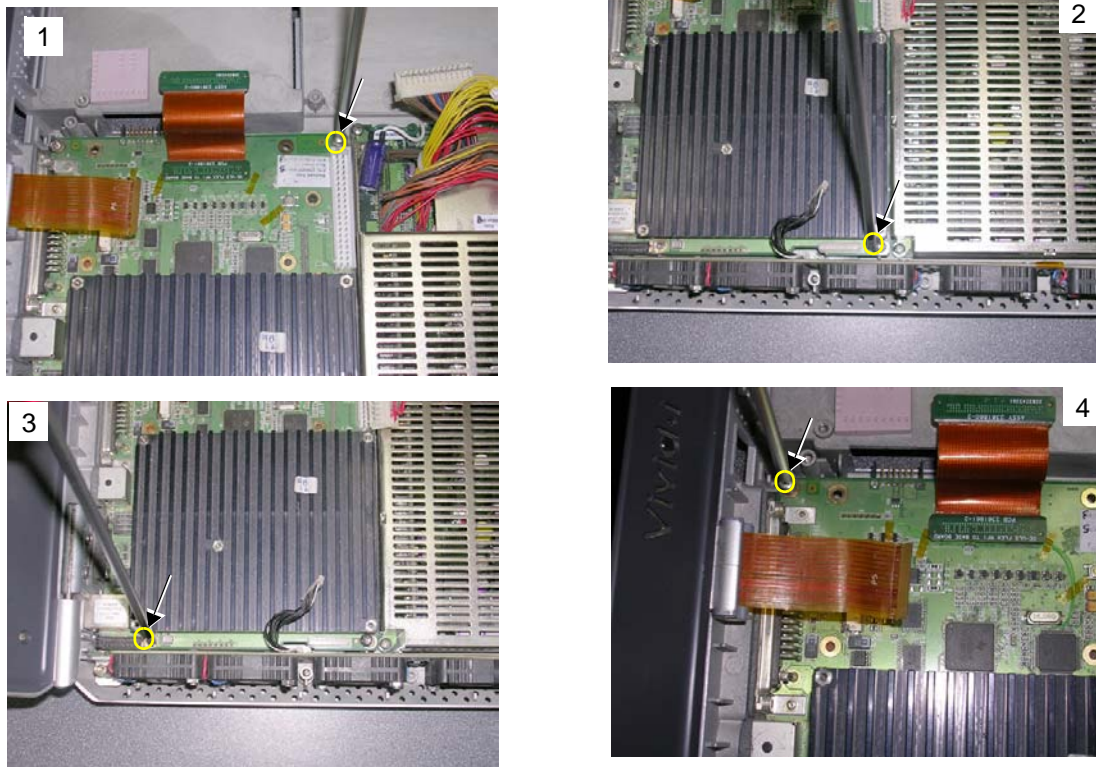

Figure 8-34 Removing the Screws from the BEP
- 2) Check that the BEP is seated correctly then return and fasten the four screws (previously removed) to secure the BEP to the Bottom Assembly - refer to Figure 8-34 on page 8-35 .